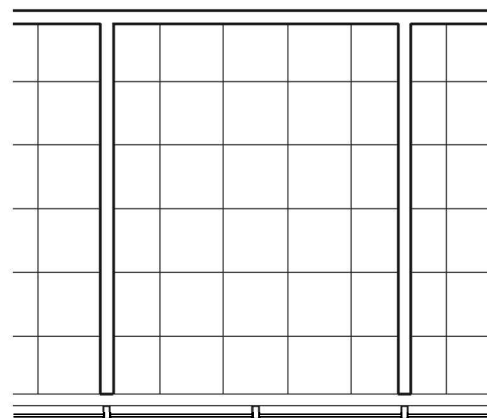

FIGURE 6-4.7
12. Use the **Move** tool to move the grid 12" to the East (Figure 6-4.7).